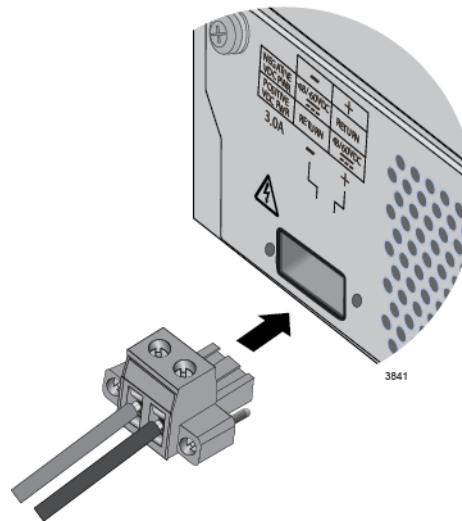

Figure 32. Sliding the DC Connector into the Switch
6. Slide the DC connector into the slot on the switch. Refer to Figure 32.